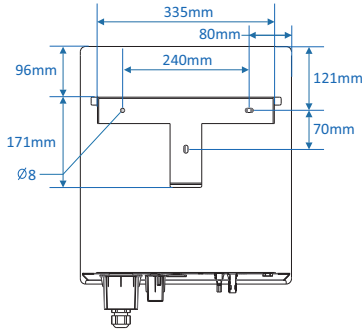

Figure 4.10 Determine the positions for drilling holes (unit: mm)
**Step 2** Determine the positions for drilling holes (as shown in Figure 4.10) using the rear panel.